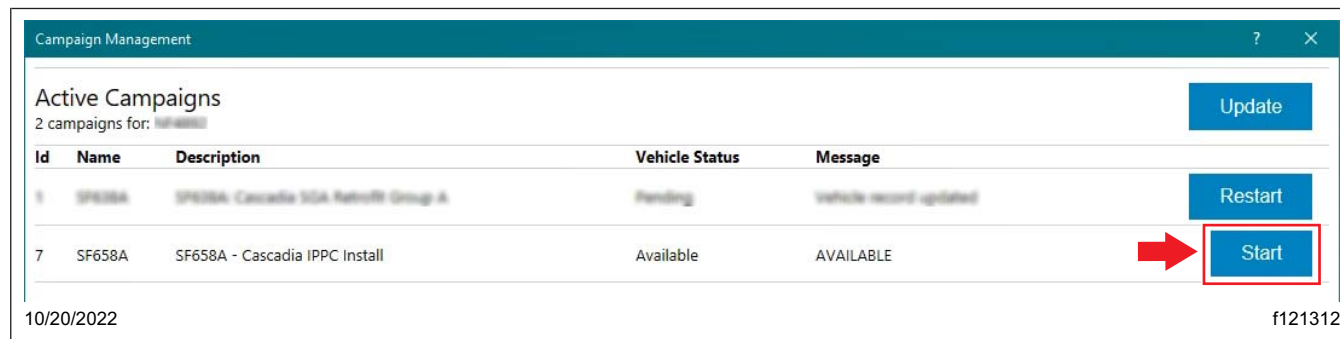

Fig. 10, Selecting Start
- 18.3 Verify the particulars under the 'Name' and 'Description' columns are displayed correctly. Then select 'Start.' See Fig. 10.